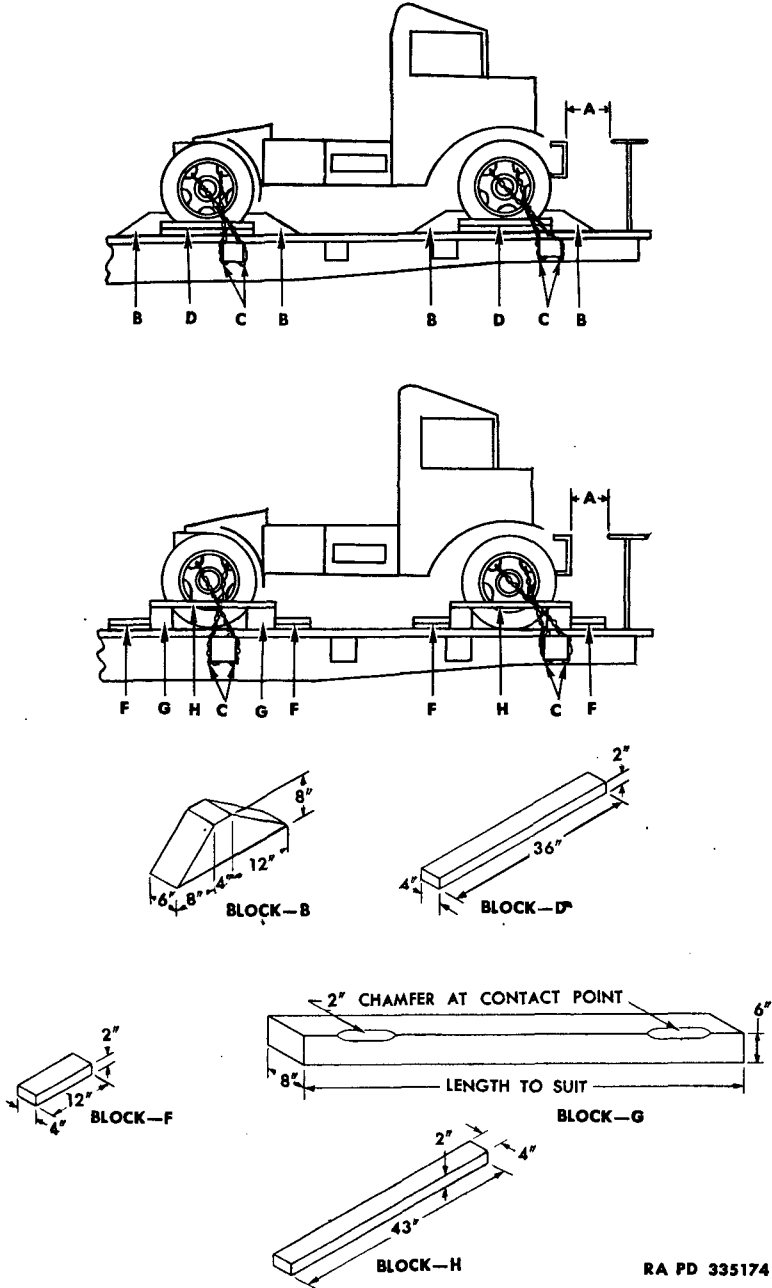

Figure 110 — Blocking Requirements for Securing Wheeled Vehicles on Railroad Cars
(4) **BRAKES.** The brakes must be applied and the transmission placed in low gear, after the vehicle has been placed in position with a brake wheel clearance of at least 6 inches ("A", fig. 110). The vehicles will be located on the car in such a manner as to prevent the car from carrying an unbalanced load.
(5) All cars containing ordnance vehicles must be placarded "DO NOT HUMP."
(6) Ordnance vehicles may be shipped on flat cars, end-door box cars, side-door box cars, or drop-end gondola cars, whichever type car is the most convenient.
(1) **METHOD 1** (fig. 110). Locate eight blocks "B", one to the front, and one to the rear of each wheel. Nail the heel of each block to the car floor, using five 40-penny nails to each block. That portion of the block under the tread will be toenailed to the car floor with two 40-penny nails to each block. Locate two blocks "D" against the outside face of each wheel. Nail the lower block to the car floor with three 40-penny nails, and the top block to the lower block with three 40-penny nails. Pass four strands, two wrappings of No. 8 gage, black annealed wire "C" through the holes in the wheels and then through the stake pockets. Tighten the wires enough to remove slack. When a box car is used, this strapping must be applied in a similar fashion and attached to the floor by the use of blocking or anchor plates. This strapping is not required when gondola cars are used.
(2) **METHOD 2** (fig. 110). Place 4 blocks "G", 1 to the front and 1 to the rear of each set of wheels. These blocks are to be at least 8 inches wider than the over-all width of the vehicle at the car floor. Using 16 blocks "F", locate 2 against blocks "G" to the front of each wheel, and 2 against blocks "G" to the rear of each wheel. Place 4 blocks "H" against the outside face of each wheel and nail to blocks "G" with three 40-penny nails. Pass 4 strands, 2 wrappings, of No. 8 gage, black annealed wire "C" through the holes in the wheels, and secure as described in Method 1 above.